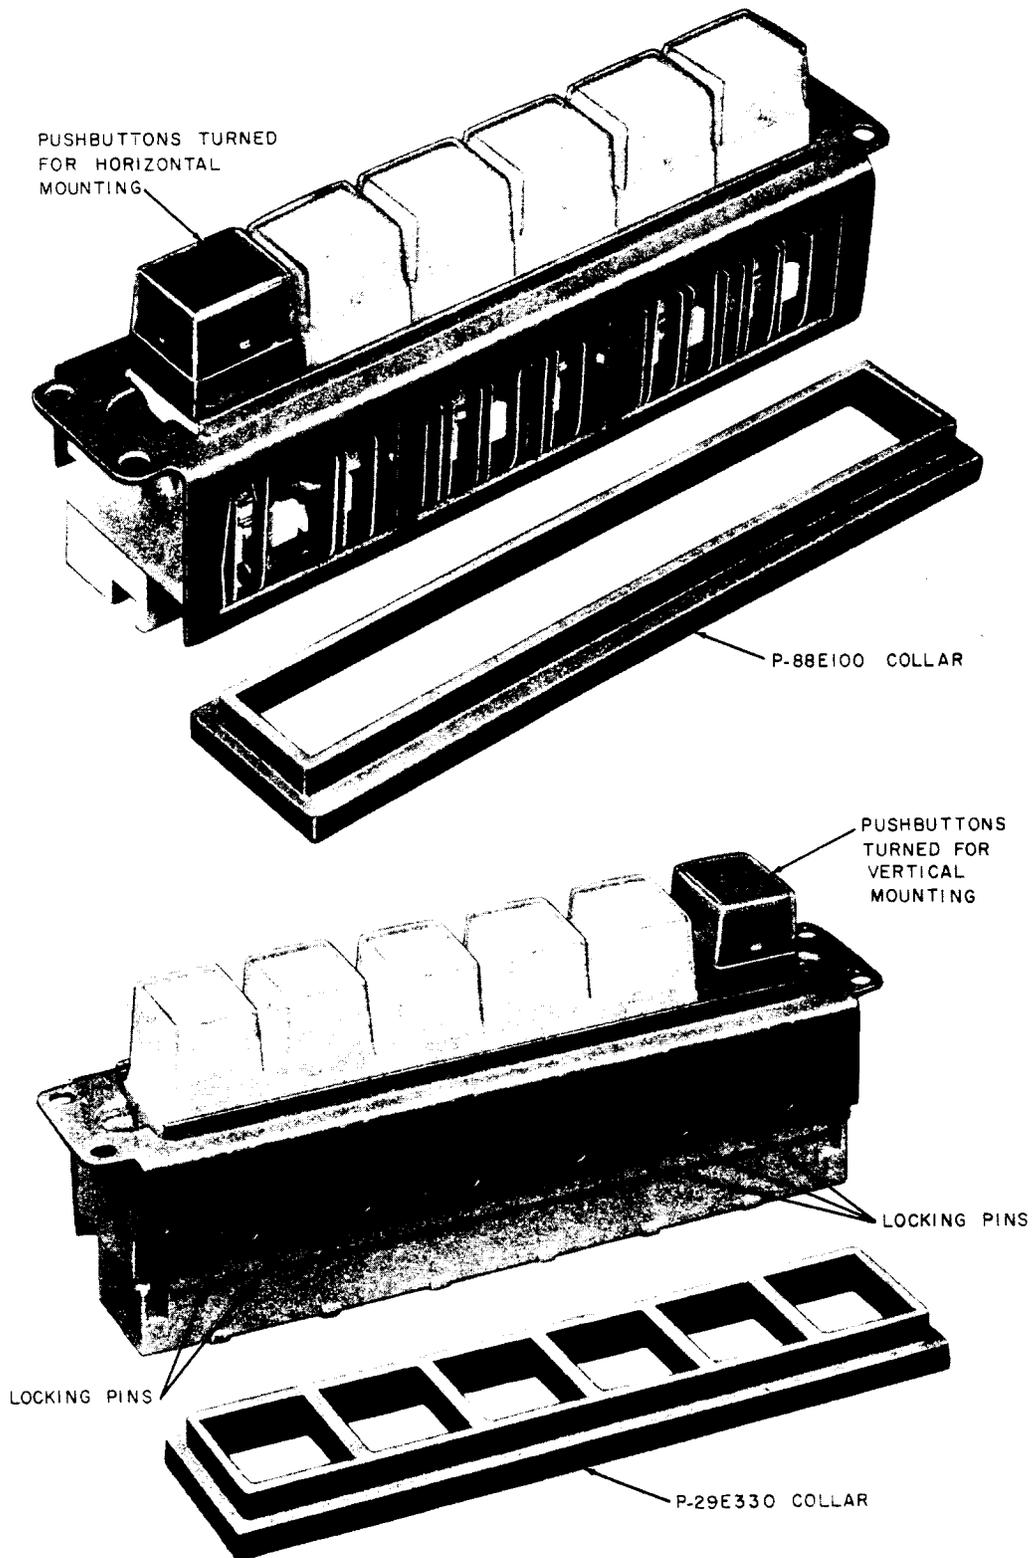

Fig. 9—635A Key Showing Both Collar Types
2.28 The 635A key (Fig. 9) is a 6-button key (5 pickups and hold) intended for use in wall or panel type telephone sets. The key is 4-3/4 inches long, 1-1/16 inches wide, and 1-15/16 inches high. The six self-designating buttons are illuminated by 53A lamps under the button caps. Connections to the key are made by a plug-ended D50Y mounting cord (ordered separately).
2.30 A plastic collar is required for use with this key and must be *ordered separately*. The collar retains a released button when another button is depressed. Two collars are available. See Fig. 9.